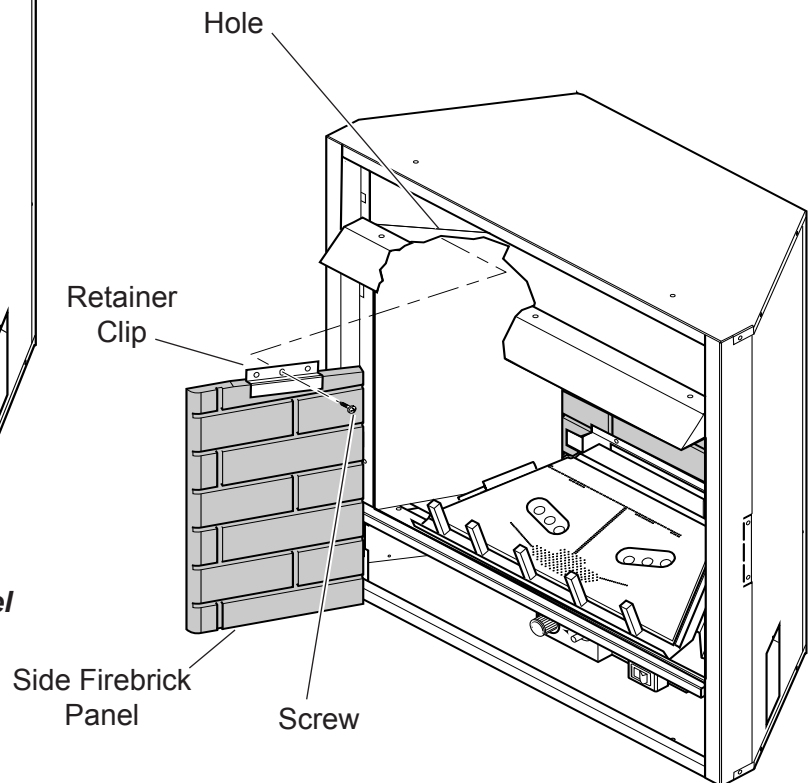

Figure 5 - Installing Side Firebrick Panel
5. Place one of the side firebrick panels in cabinet. Line up the hole in the retainer clip with the hole inside the firebox. Using Phillips screwdriver, attach the retainer bracket to inside of firebox. See *Figure 5*.